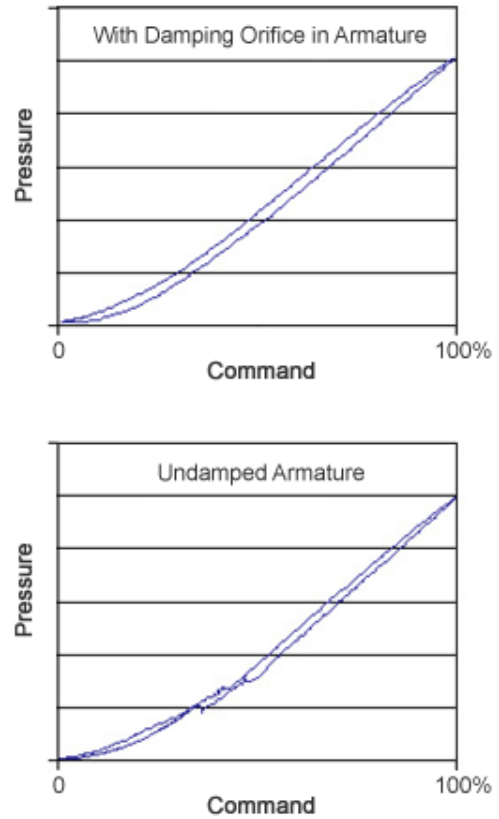

Figure 2.
- ◊ The damped armature results in a reduction of pressure amplitude changes with a minimal effect on response. Figure 2 shows a comparison between a damped and undamped valve, flowing about .25 gpm (0,95 L/min).